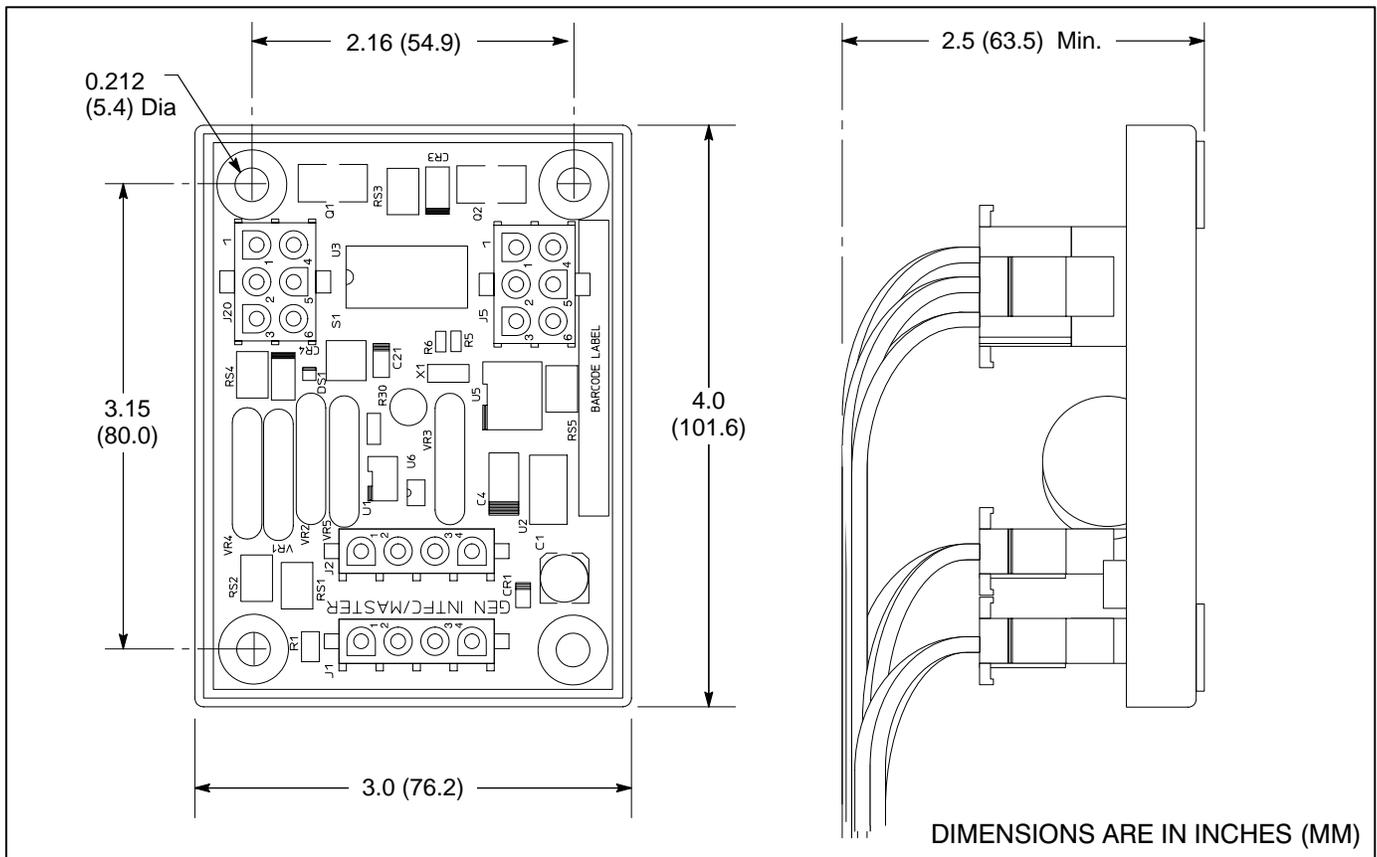

FIGURE 7-1. GENERATOR NODE
1. Choose a location that provides adequate clearance for the communications cable (see (see Figure 7-1). Select a location that is within 15 feet (457.2 cm) (wire length) of the genset.
2. Drill mounting holes as shown in Figure 7-1. Make sure you do not drill into other electrical components.